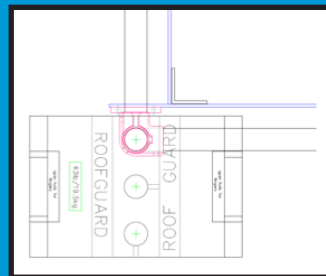

Figure 14: Toe-Board Inside Corner
6.4-E When coming to an “inside” corner — (the toe-board goes on the inside of the vertical post) the fitting at the corner will be past the intersection of the next piece of toe-board. See Figure 14. The end of the next toe-board makes a “T” with the secured piece of toe-board, and is secured with a corner splice plate to line up with the next RoofGuard Post.